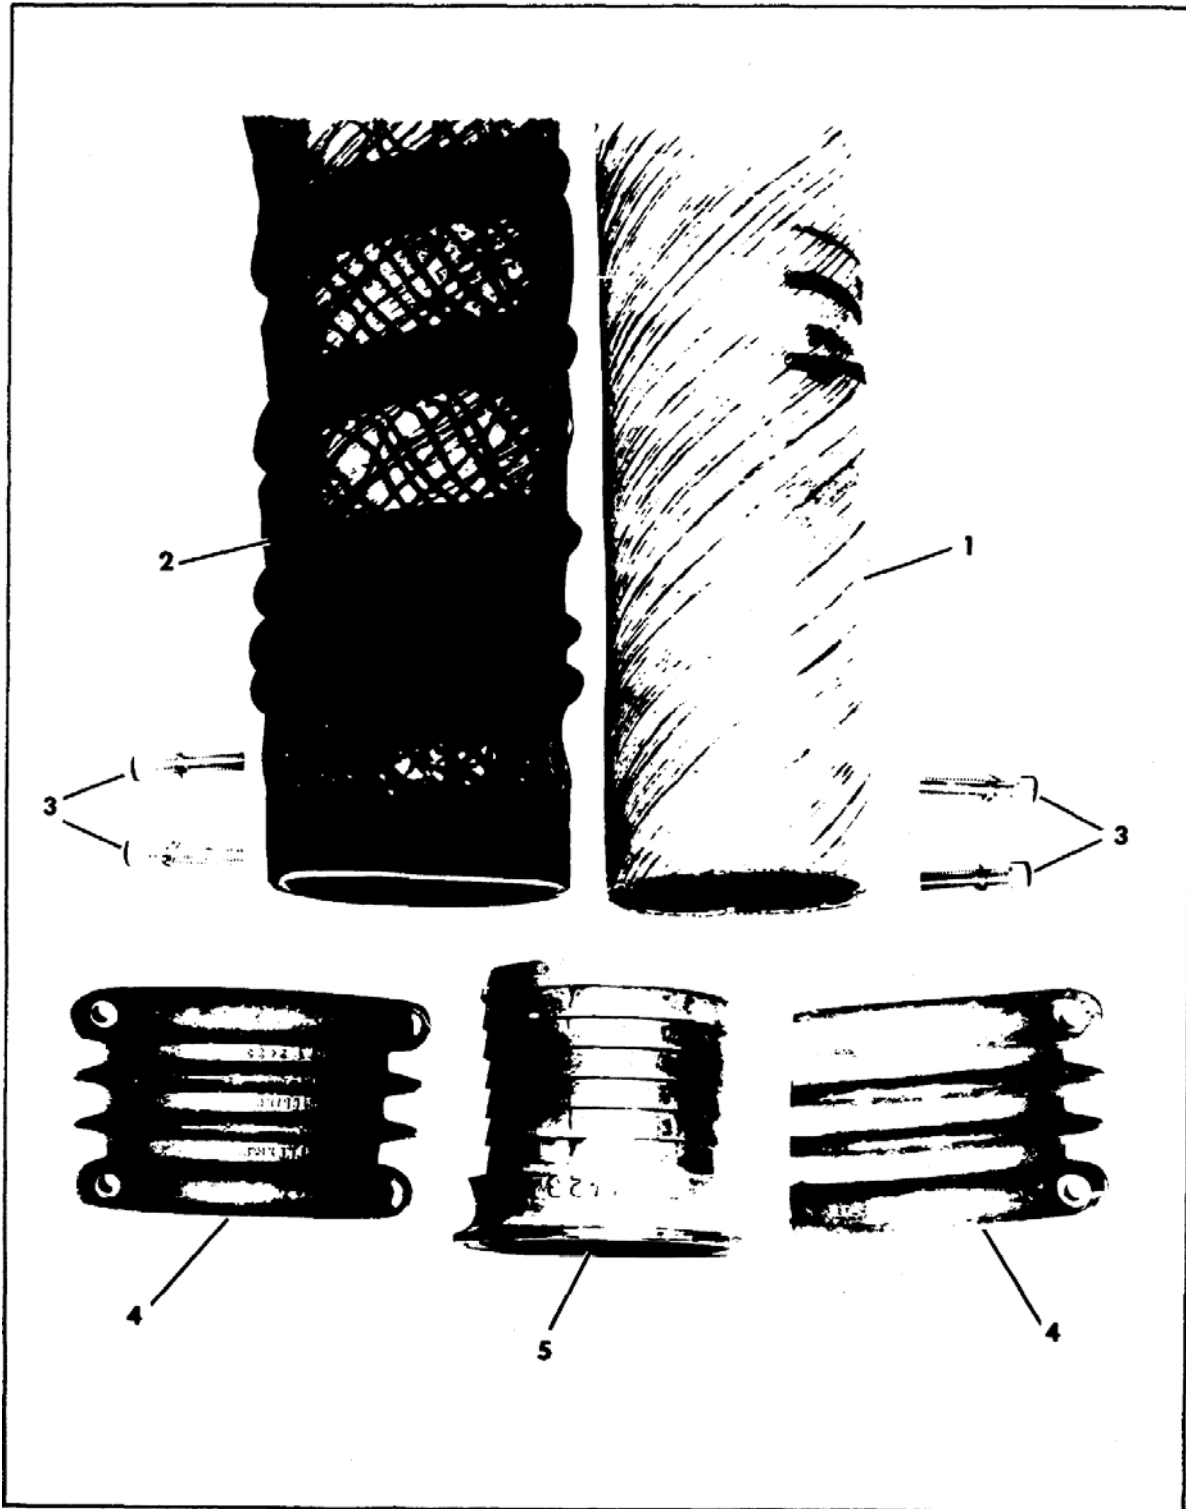

Figure 5: Duct Assembly
- c. Install coupling halves (4), on fitting (5), mating slot in halves with retaining lip on fitting.
- d. Install screws (3) and torque to 40 inch-pounds.
18. Duct Assembly Utilizing Fitting, Part No. FT2423, reference Figures 5 and 6.
- a. Insert duct (1) over fitting (5) until flush with forward shoulder.
- b. Install scuff cover (2) over duct (1).